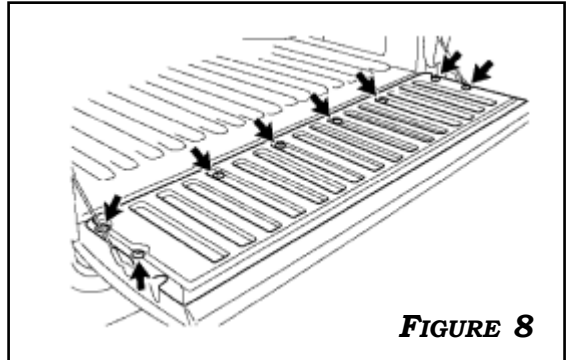

FIGURE 8
8. USE A **T30** TORX SOCKET TO RELEASE 8 SCREWS AND REMOVE THE TAILGATE SERVICE HOLE COVER. **FIGURE 8**